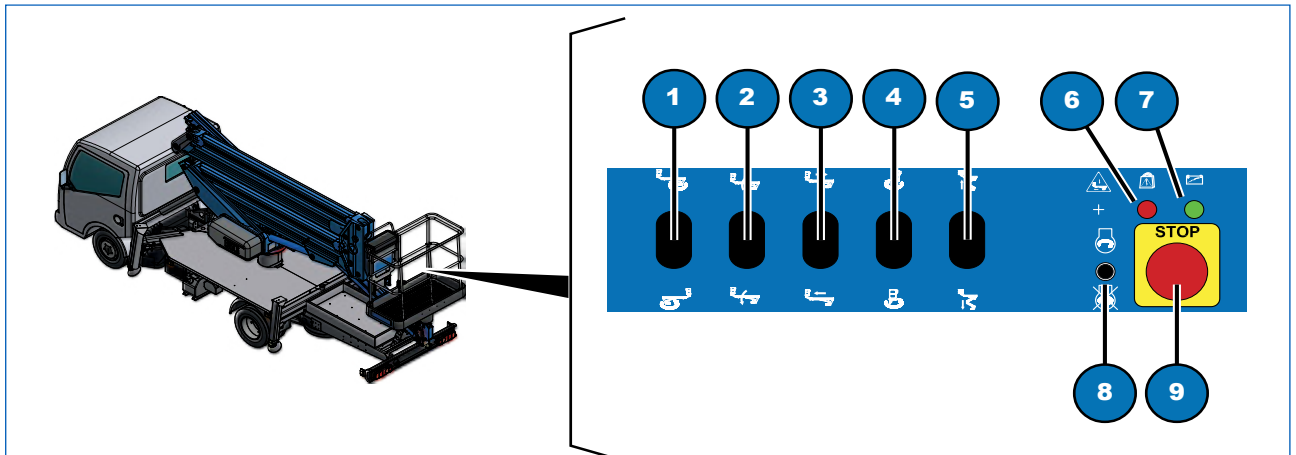

Fig. 6.4
- check that the power supply indicator LED on the work platform control board is on (Fig. 6.4, 9);
- Move the boom by keeping the selector switch control pressed (Fig. 6.4, 1, 2, 3, 4 or 5) in the required position;
If you wish to switch off the engine once you have reached the work position, press the selector switch (Fig. 6.4, 8) downwards.
To restart, press the selector switch (Fig. 6.4, 8) upwards.